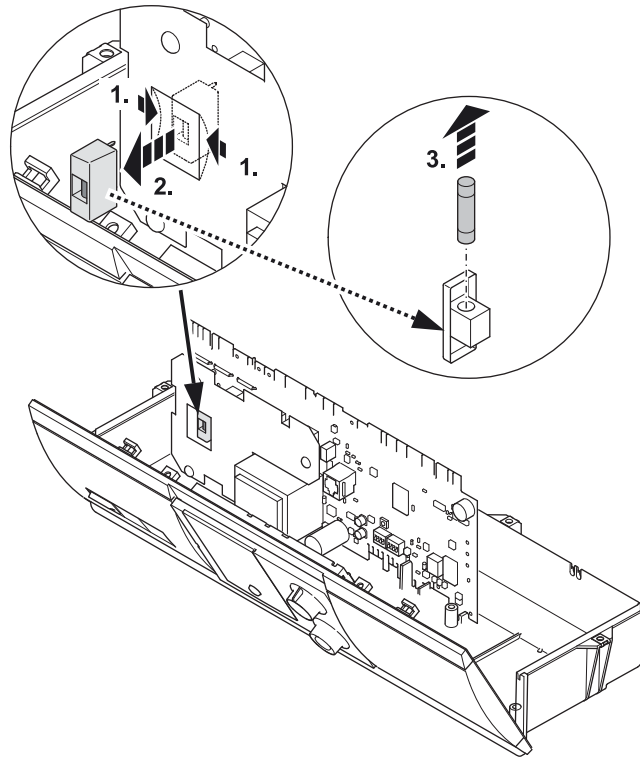

Fig. 6-15 Changing the fuse
5. Replacing the fuse or control panel circuit board (fig. 6-15).